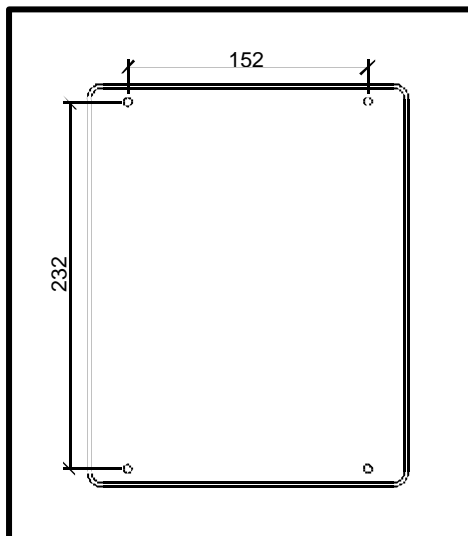
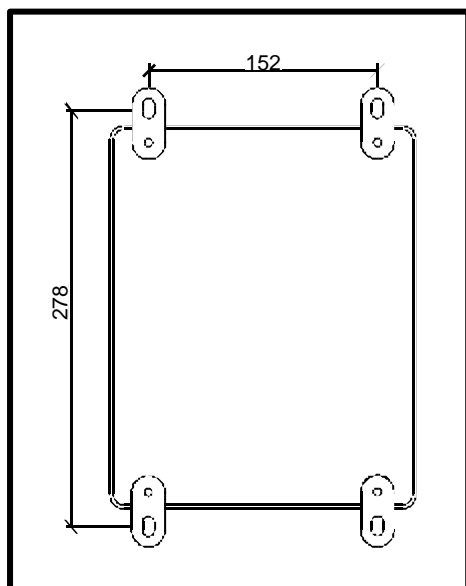

Figure 2-1
Figure 2-2
The Model 400 may be mounted by one of two methods. The mounting arrangement shown in Figure 2-1, is suitable for installations where the attaching screws can be inserted from behind the transmitter. Figure 2-2 shows the arrangement when using the supplied mounting kit. Either of these methods may be used without compromising the IP66 (NEMA 4X) rating of the enclosure.
- (b) Decide upon which of the two mounting arrangements shown opposite, is the most suitable for your particular application. Drill holes in the wall using the dimensions shown in Figure 2-1 or Figure 2-2. The screws supplied in the enclosed mounting kit, (i.e. #10-32 pan head) can be used for the standard mounting arrangement detailed in Figure 2-1, providing the panel thickness does not exceed 3mm. If using the arrangement shown in Figure 2-2, you must supply the necessary hardware to attach the unit to the wall. The slots in the mounting feet supplied can accommodate screws up to 7mm in diameter.